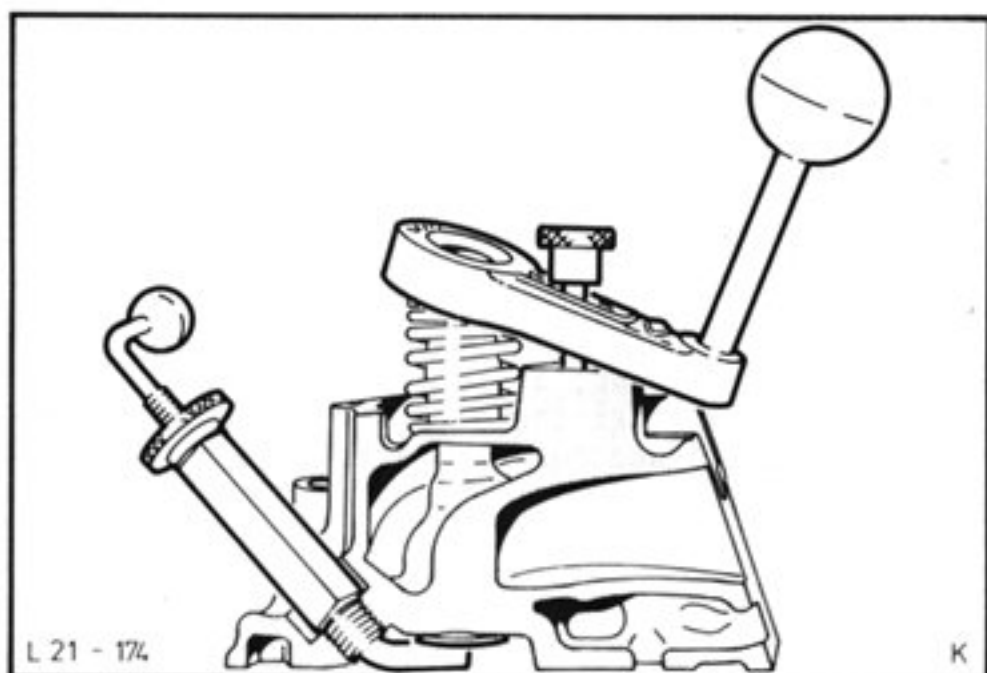

Fig.108. Removal of the valve spring with Special Tools 21-056 and 21-057.
6. Screw valve retainer 21-057 into spark plug hole, position against valve head and lock. Fit valve spring compressor 21-056 to cylinder head, Fig.108.